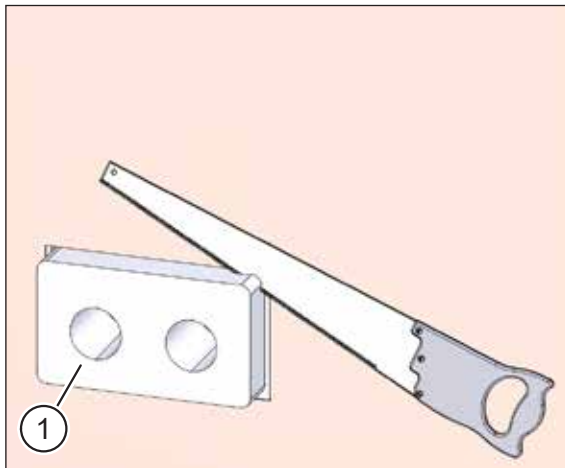
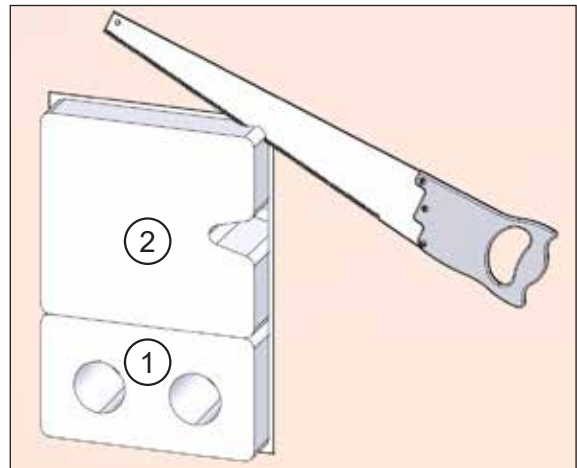

Fig. 64: Aligning the wall box **without** filler piece
Fig. 65: Aligning the wall box **with** filler piece
- ▶ Use a Styrofoam saw to cut off the excess wall box (item 1 in Fig. 64 and Fig. 65) and filler piece, if necessary (item 2 in Fig. 65), so that they are flush with the external wall side or any attached insulation.